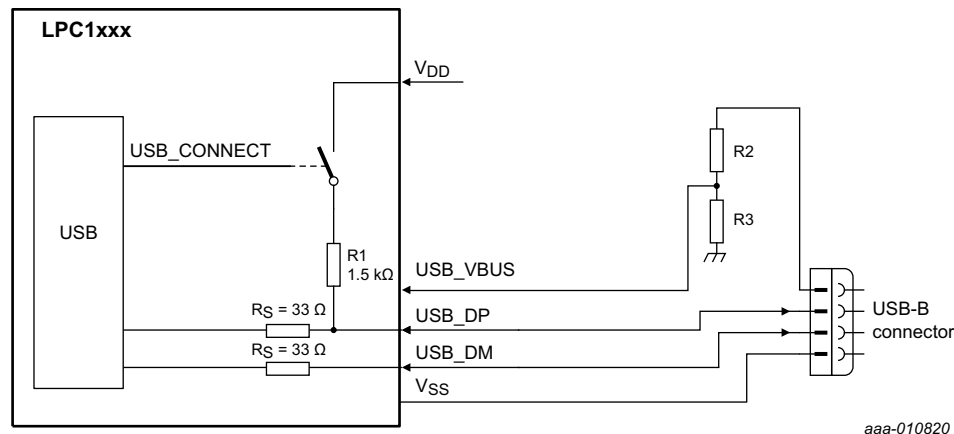
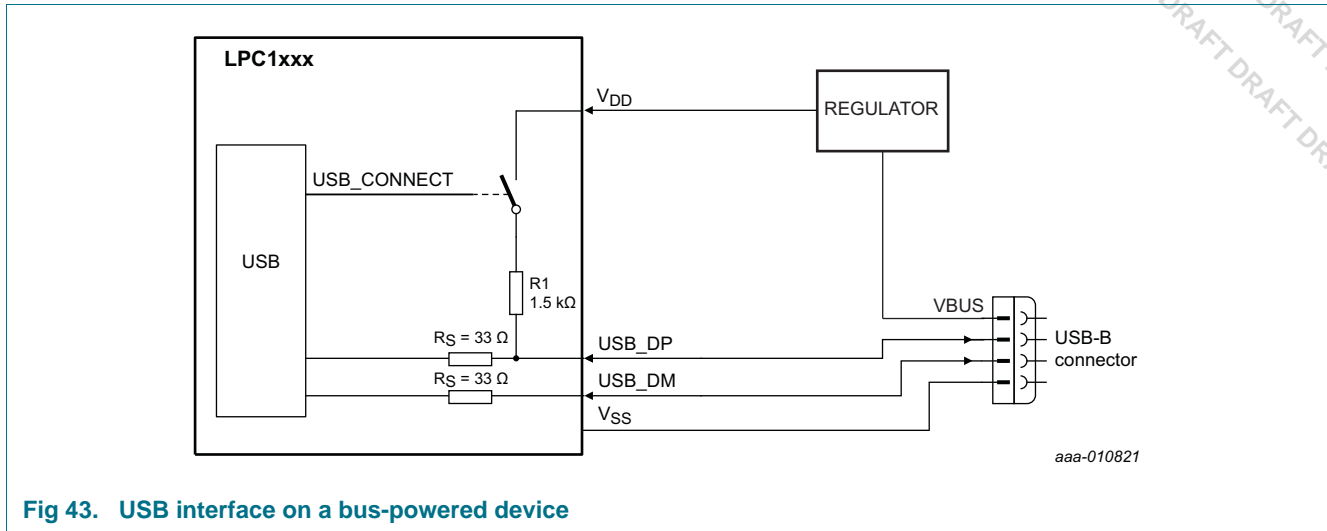

Fig 42. USB interface on a self-powered device where USB\_VBUS = 5 V
Fig 43. USB interface on a bus-powered device
The USB device can be connected to the USB as self-powered device (see Figure 42) or bus-powered device (see Figure 43).
For a bus-powered device, the VBUS signal does not need to be connected to the USB\_VBUS pin (see Figure 43). The USB\_CONNECT function can additionally be connected as shown in Figure 42 to prevent the USB from timing out when there is a significant delay between power-up and handling USB traffic.
**Remark:** When a bus-powered circuit as shown in Figure 43 is used or, for a self-powered device, when the VBUS pin is not connected, configure the PIO0\_3/USB\_VBUS pin for GPIO (PIO0\_3) in the IOCON block. This ties the VBUS signal HIGH internally.